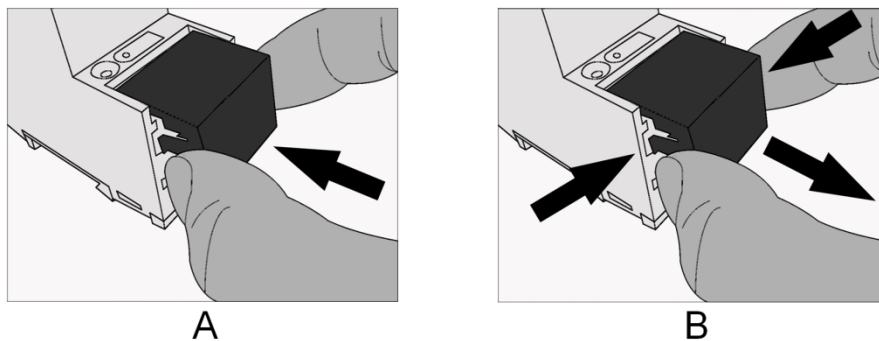

Figure 2: Mounting/removing a cover cap.
- Mounting the cover cap: The cover cap is pushed over the bus terminal until it audibly engages (comp. Figure 2: Mounting/removing a cover cap (A)).
- Removing the cover cap: The cover cap is removed by pressing it in slightly on the side and pulling it off to the front (comp. Figure 2: Mounting/removing a cover cap (B)).